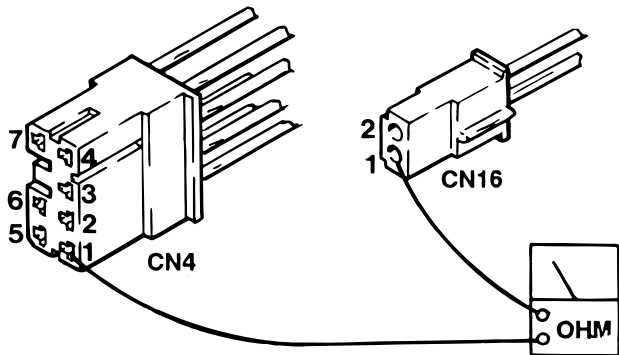

Figure 6-17
2. Using an ohmmeter, test for continuity between pins 1 and 2 of CN4 and pins 1 and 2 of CN16. See figure 6-17.